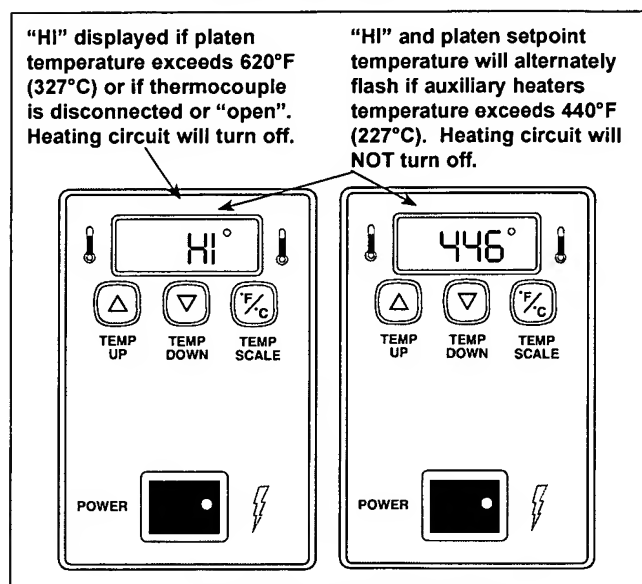

Figure 9. "HI" Fault Message
- If the platen thermocouple is disconnected or "open", the display will read "HI" and the heating circuit will turn off (Figure 9). The platen thermocouple must be reattached or replaced.
- If the platen heater temperature exceeds 620°F (327°C) the display will read "HI" and the heating circuit will turn off (Figure 9). After the toaster has cooled down, the unit must be turned off, then back on to restart. If this condition repeats, contact your Roundup authorized service agency.
- If the auxiliary heating temperature exceeds 440°F (227°C) the display will alternately flash "HI" and the platen setpoint temperature (Figure 9). The heating circuit will not turn off. The toaster must be manually turned off and allowed to cool down. After the toaster has cooled down, the unit must be turned back on. If this condition repeats, contact your Roundup authorized service agency.